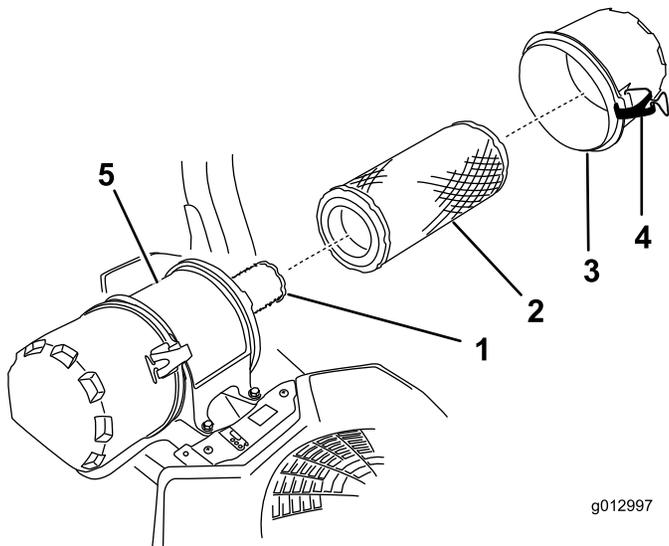

Figure 28
6. Release the latches on the air cleaner and pull the air-cleaner cover off the air-cleaner body (Figure 28).
8. Gently slide the outer filter out of the air-cleaner body (Figure 28).
- If you are replacing the inner filter, carefully slide it into the filter body (Figure 28).
- Carefully slide the outer filter over the safety filter (Figure 28).